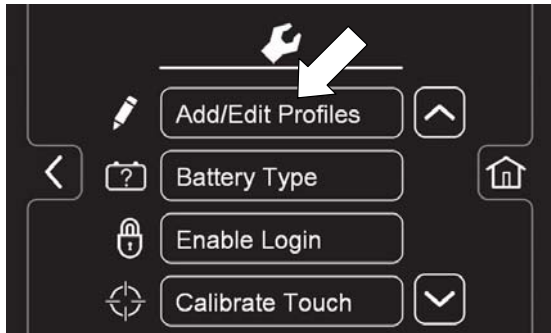

FIG. 140
1. Press the “Add/Edit Profiles” button to enter the user profile settings (Figure 140).